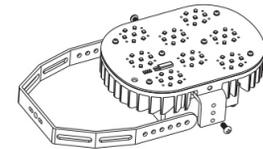

Fig. 1
1. Attach U-Bracket to lamp using Phillips head M4 screws. Do not tighten (Fig. 1).